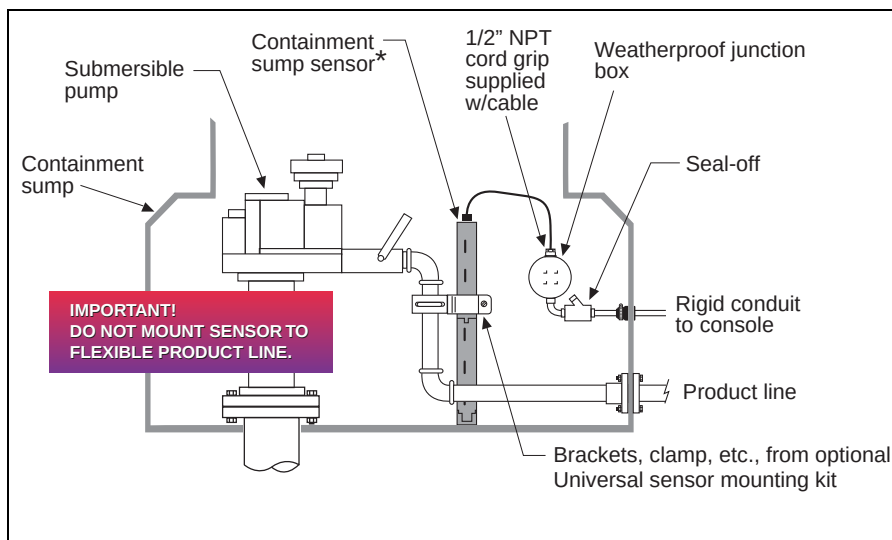

Fig. 1 Example Containment Sump Sensor Installation
- Universal Sensor Mounting Kit, P/N 330020-012 (see Fig. 1)